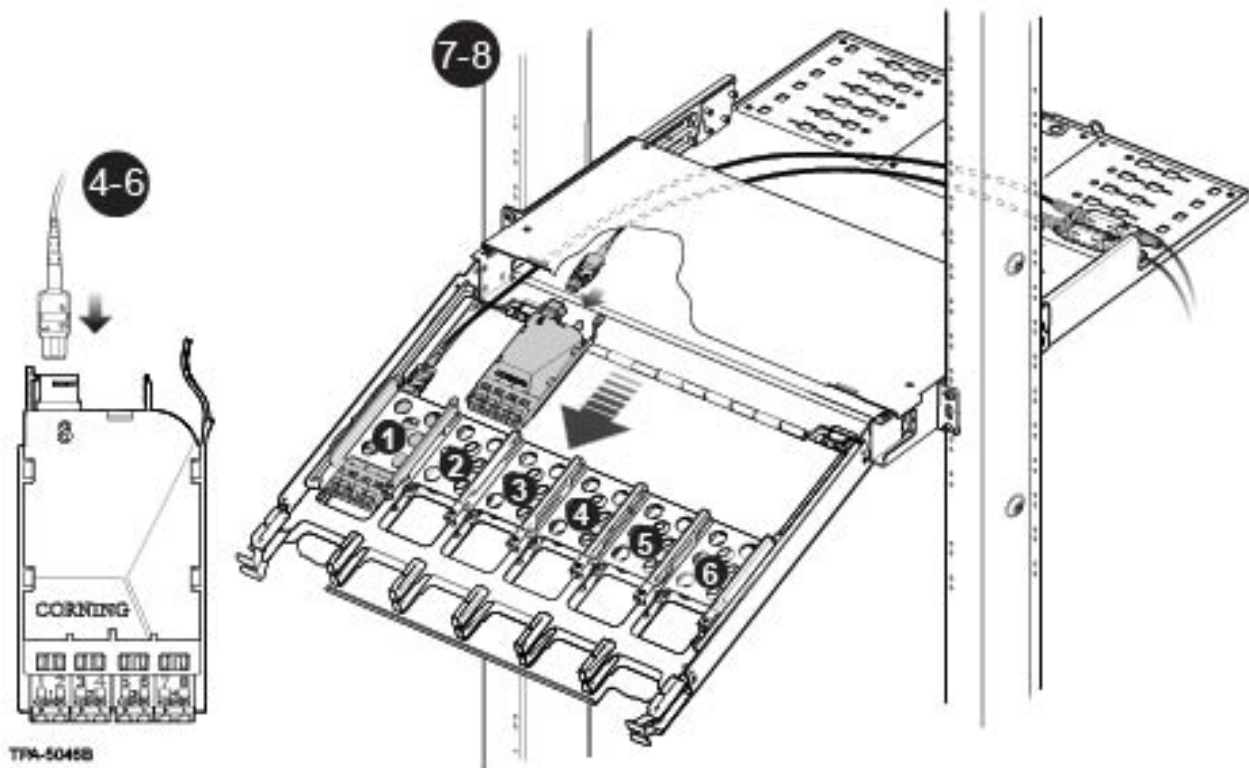

Figure 19 — Install EDGE8® Standard Module
**Step 6:** Mate the MTP connector(s) into the adapter(s) at the back of the module (Figure 19).
**Step 7:** Starting with the lower left corner (Tray 1, slot A, as seen from the front), insert the module from the rear until it locks into place (Figure 19).
**NOTE:** Only LC connectors are shown in Figure 19 and Figure 20.